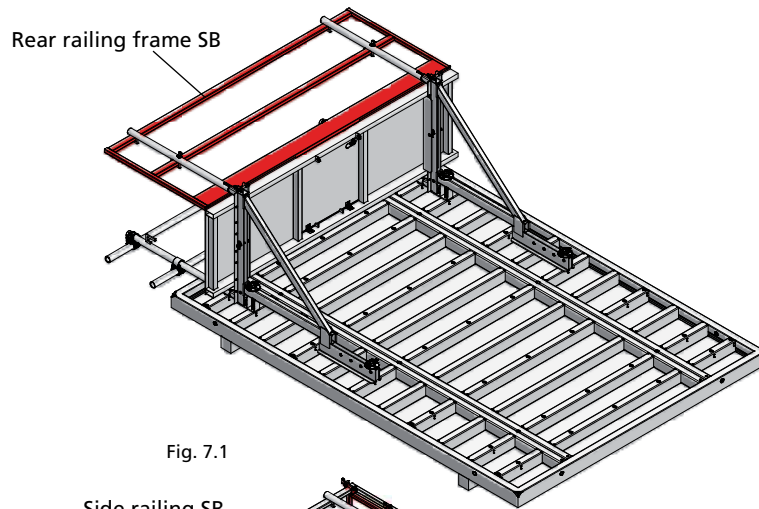

Fig. 7.1
5. Attach the rear railing frame to the rear railing posts SB (Fig. 7.1). See p. SB-4 and SB-5 for the rear railing frames usable for the various formwork panels.